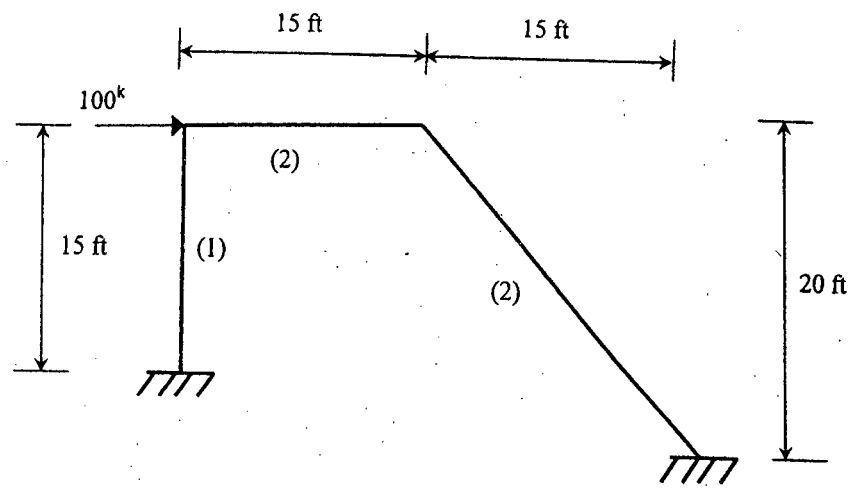

Fig. 1
1. Fig. 1 shows a loaded one-story bent with an inclined leg. The relative stiffness value for each member is given in the figure within parentheses. Analyze the structure using moment distribution method and find out end moments. (35)